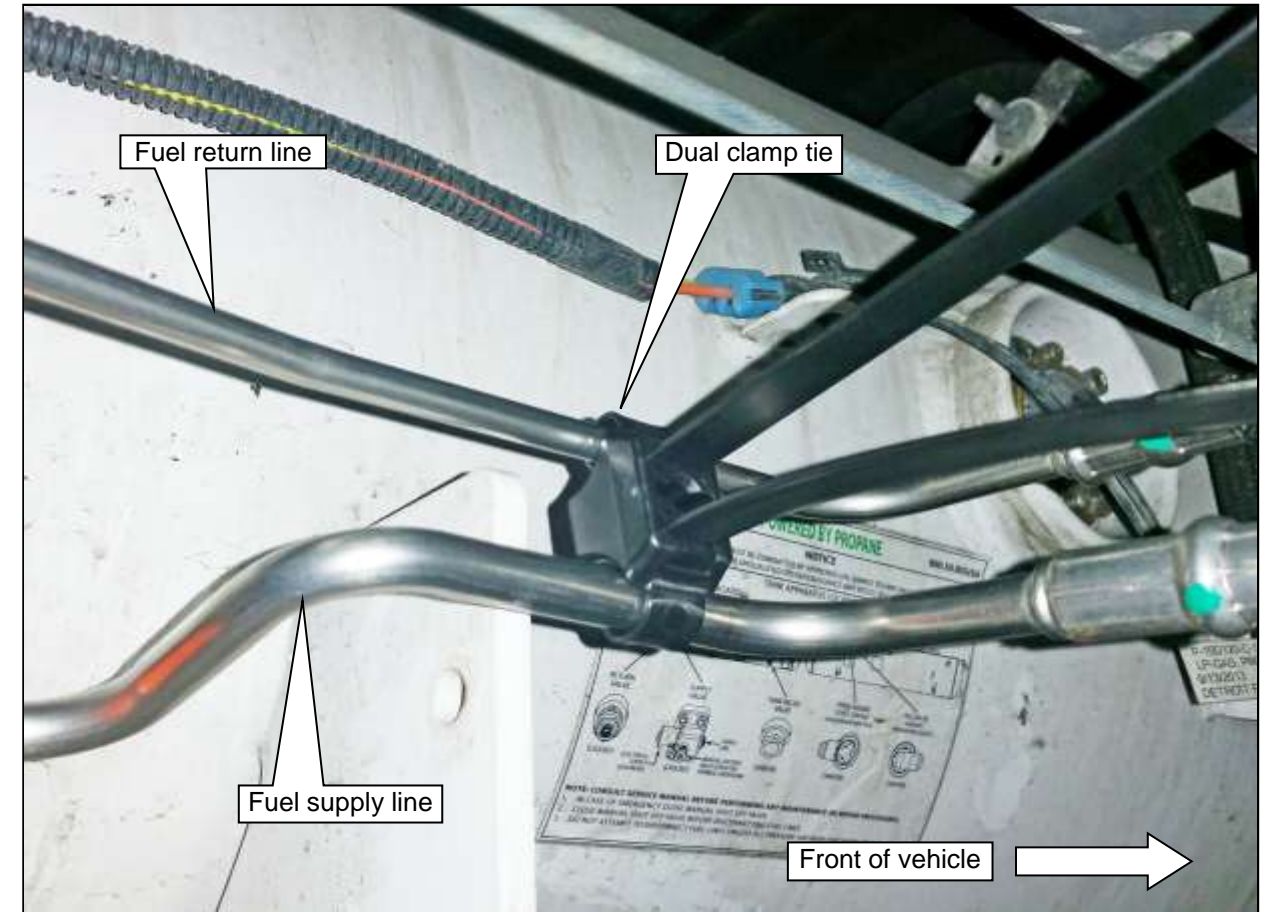

Figure 25.1
1. Attach fuel return line into OEM retaining clips (6) along frame rail and secure into place.
2. Attach the rear fuel supply line into the OEM retaining clips (6) along the frame rail and secure into place.
5. Loosely install double zip tie to fuel supply and return lines. **Figure 25.1.**